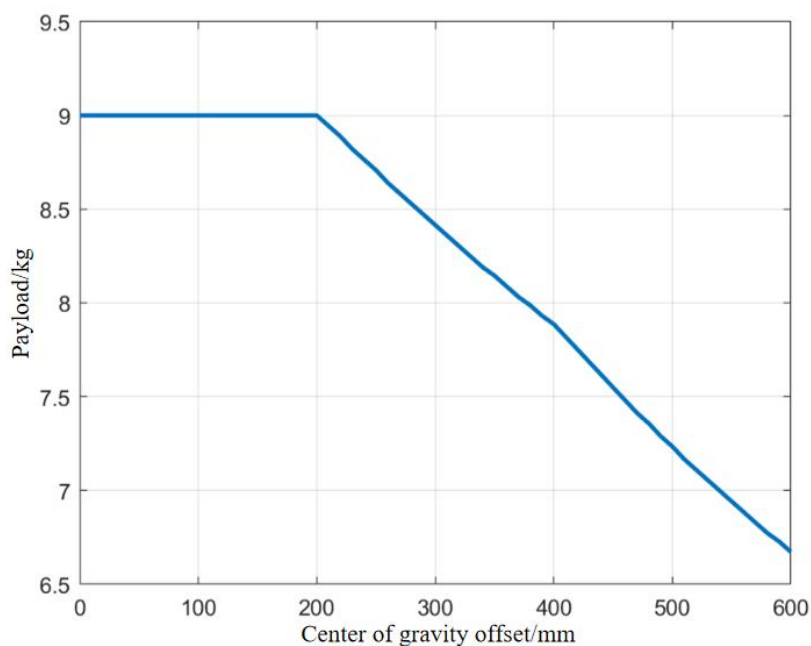

Figure B-5 G9 Payload and Center of Gravity Offset curves
• The relationship curve between the payload of the G9 collaborative robot and the payload center of gravity offset is shown in Figure B-5.